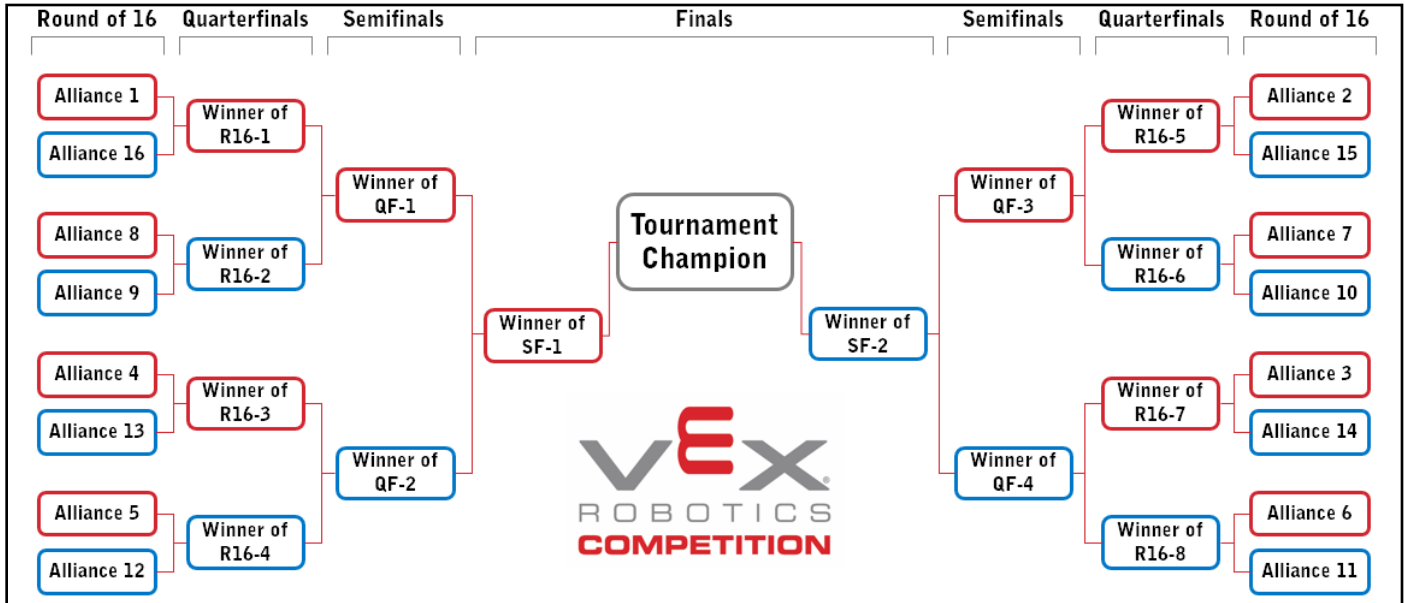

Figure T19-1: A 16-Alliance bracket
<T19> **Elimination Matches follow the Elimination Bracket.** A sixteen (16) *Alliance* bracket plays as shown in Figure T19-1: